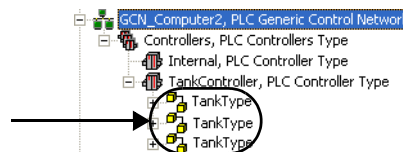

Figure 22. Created Process Objects
22. Expand the controller object to view the created process objects, see also Figure 22.